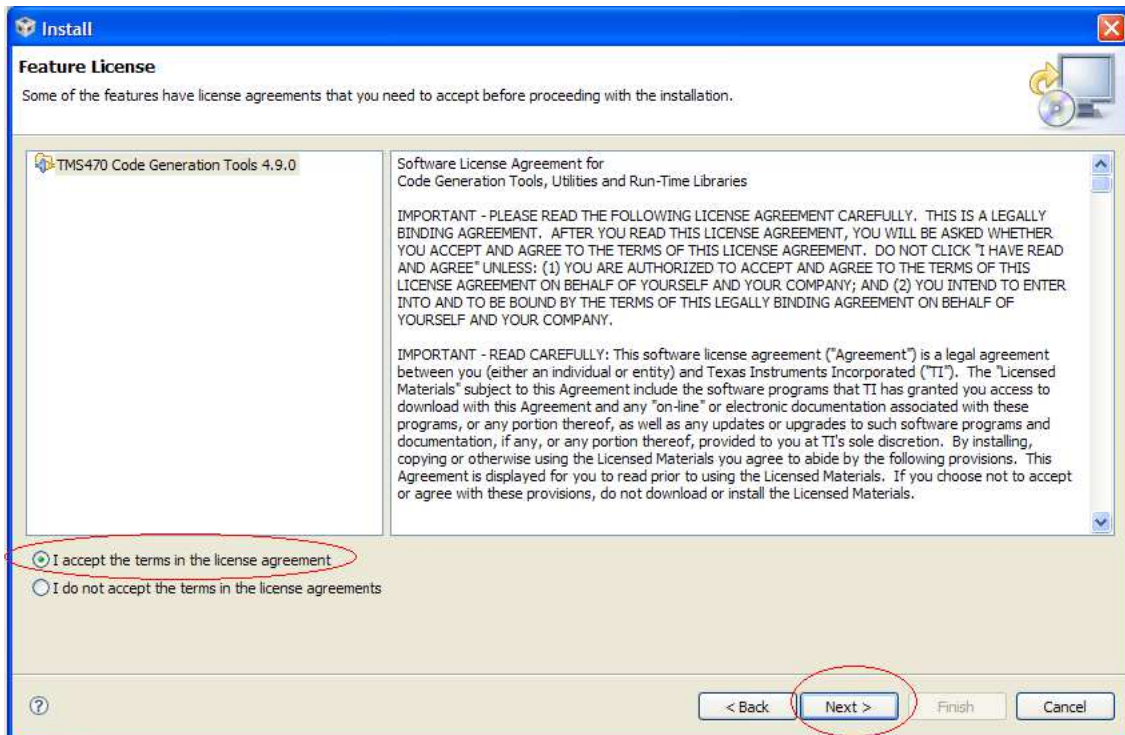

Figure 5. Install Window_Accept Terms
3. Read and accept the license agreement and click on the Next button as shown in Figure 5.